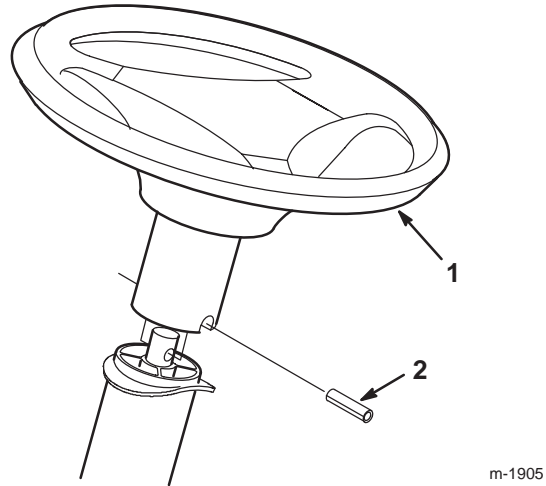

Figure 2
2. Slide the steering wheel over the steering shaft and line up the hole in the steering wheel with the hole in the shaft (Fig. 2).
4. Using a hammer, drive the spirol pin in until it is flush with the outside of the steering wheel (Fig. 2).